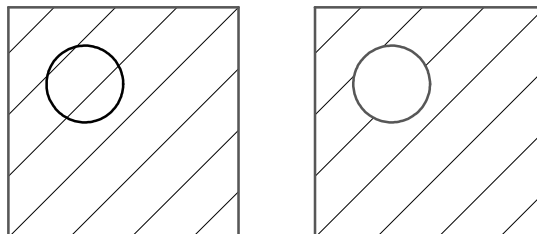

Figure 48: Islands which are selected won't get hatched through (right).
2. Select the contour(s) you want to fill. Note that islands inside contours will get hatched if they are not selected (Figure 48)